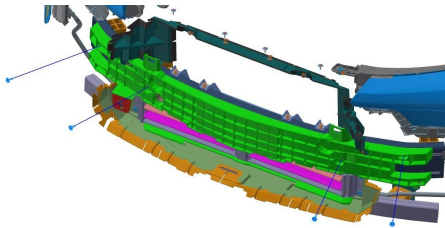
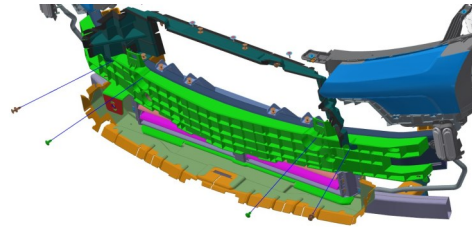

Figure 8a
Figure 8b
C. Remove the (4) bolts (Figure 8a) and (4) retainers (Figure 8b) from the energy absorber.